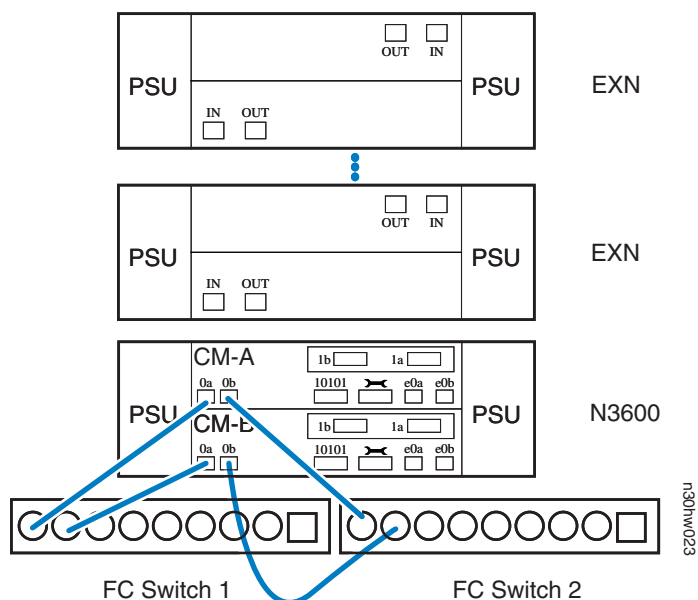

Figure 5. Cabling the N3600 to Fibre Channel switches
1. As shown in Figure 5 on page 18, cable onboard ports 0a of both the top and bottom controller modules (CM-A and CM-B) to two ports on one Fibre Channel switch.
2. As shown in Figure 5 on page 18, cable onboard ports 0b of both the top and bottom controller modules (CM-A and CM-B) to two ports on a second Fibre Channel switch.